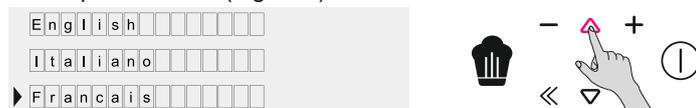

Figure 2
- Please enter in the settings section and select the language from the drop down menu (Figure 2).